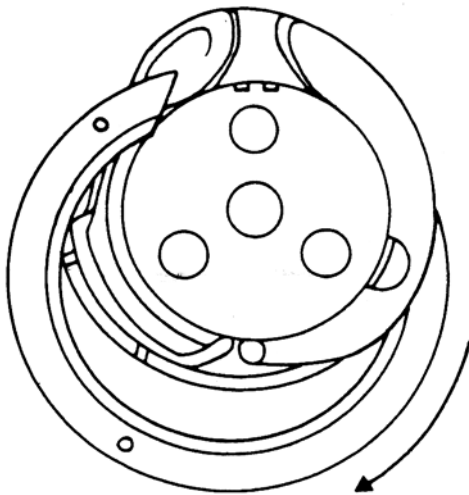

Fig. 102
- Turn the sewing hook gib to the left or to the right out of the bobbin case base (fig. 102).